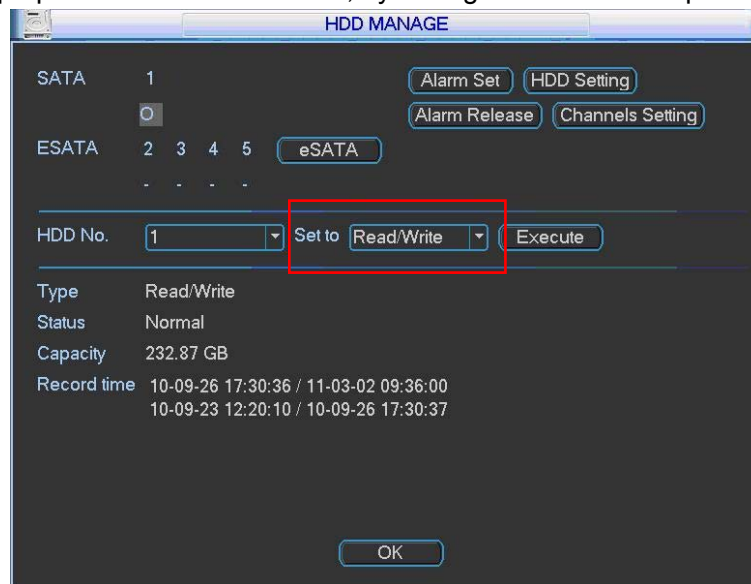

Figure 4-14
In the main menu, from Advanced to HDD management, you can set one or more disk(s) as redundant. You can select from the dropdown list. See Figure 4-14. System auto overwrites old files once hard disk is full.
- Set redundant disk(s) as read-only disk or read-write disk (Main menu->Advanced->HDD management). See Figure 4-14. System needs to reboot to get setup activated. Now you can search or playback file in redundant disk.